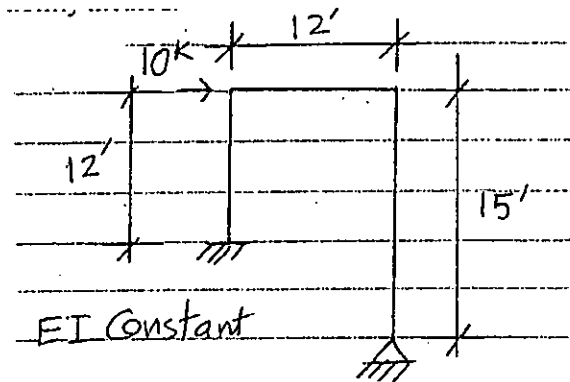

Figure 3
- a. Analyze the frame shown in Fig 3. Draw bending moment diagram and sketch the deflected shape. Use flexibility method.
- b. Analyze the frame shown in Fig 3. Draw bending moment diagram and sketch the deflected shape. Use moment distribution method.